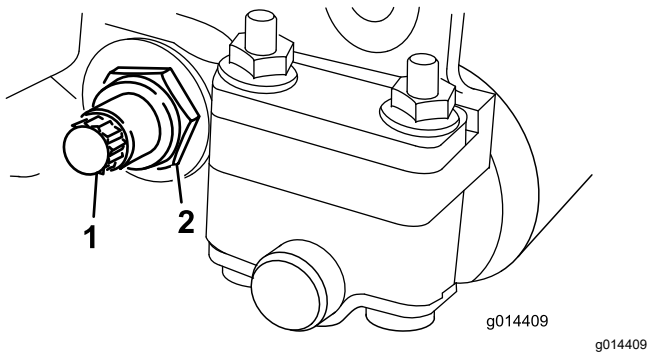

Figure 18
3. On each side of the machine, loosen the locknut securing the bedbar bolt (Figure 18).
4. Remove each bedbar bolt allowing the bedbar to be pulled downward and removed from the cutting unit (Figure 18).